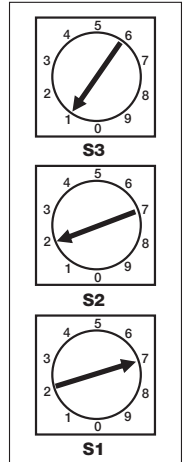

FIGURE 4b
- Finally the DMX address should be set for M4-DMX units. The top switch (S3) is the “hundreds” unit for the address, the middle switch (S2) is the “tens” unit, and the lower switch (S1) is the “ones” unit. Addresses may be set from 1 to 501. This unit “uses” twelve addresses (so address-501 uses addresses 501 to 512 for example). To set the unit to base address 127 set the S1, S2 & S3 switches as follows (See FIGURE 4b):
SETTINGS FOR FIGURE 4B